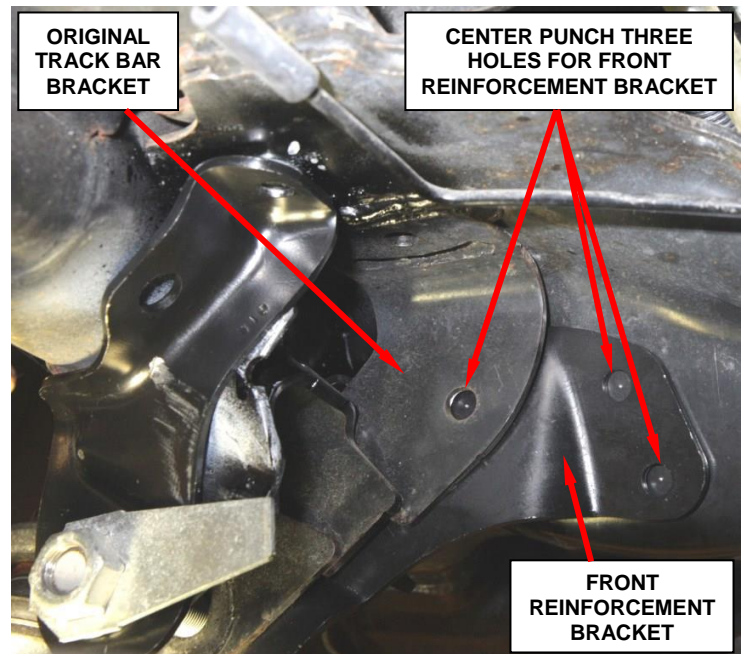

Figure 16 – Rear Reinforcement Bracket
21. Using the proper size transfer punch, center punch the remaining three holes (two on the frame and one on the front reinforcement bracket) for the front reinforcement bracket (Figure 16).
38. Using a small hammer, tap a riv-nut into each of the 17/32" holes (Figure 16).